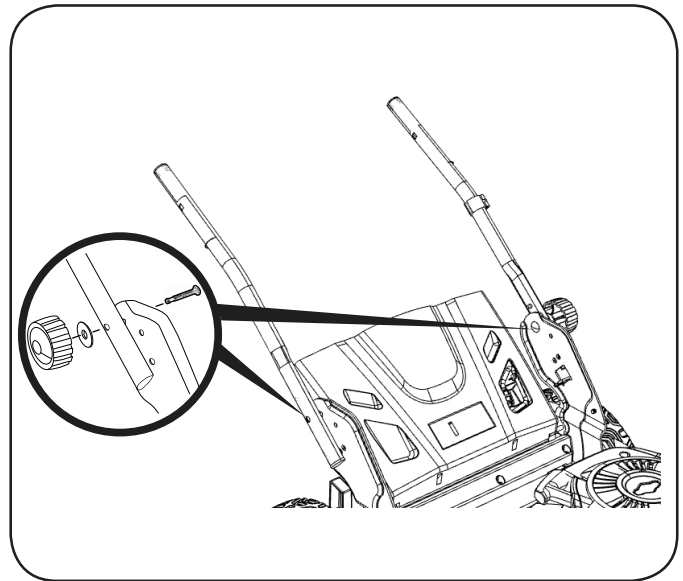

Figure 2
1. Stabilize the mower so it does not move. Attached the lower handles and secure them using the star knobs, washers, and carriage bolts (Figure 2).